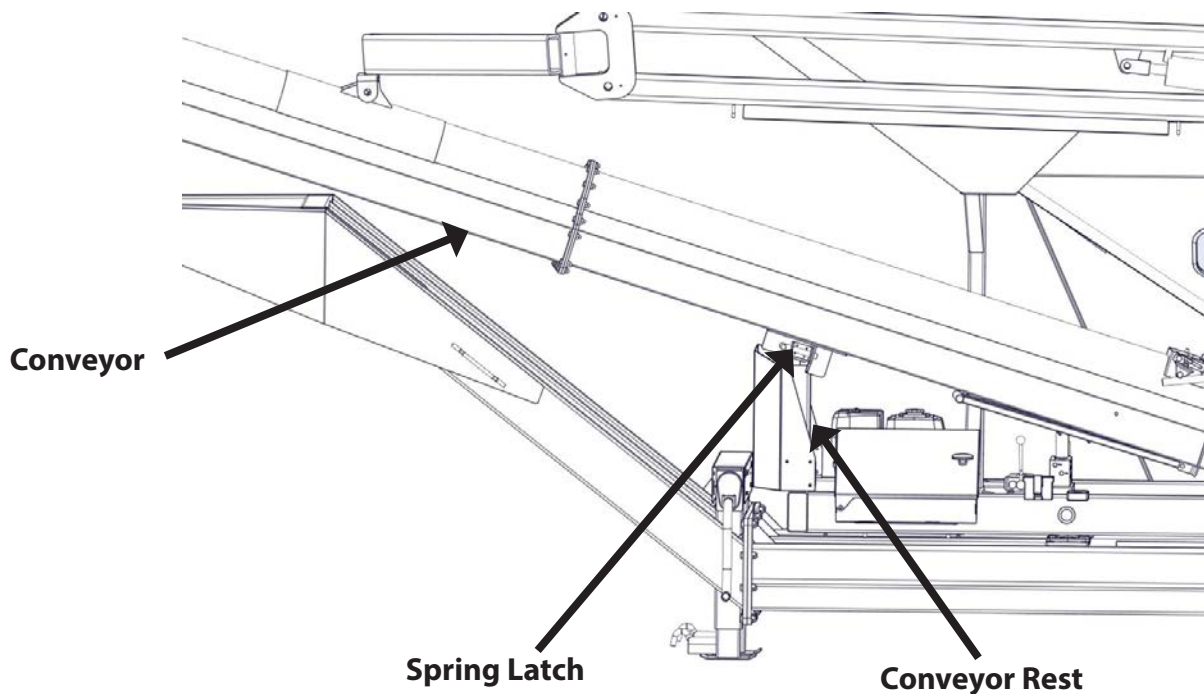

Figure 1.3
2. Release the spring latch from the conveyor. (Figure 1.3).
1. Release spring latch from conveyor rest. (Figure 1.3).